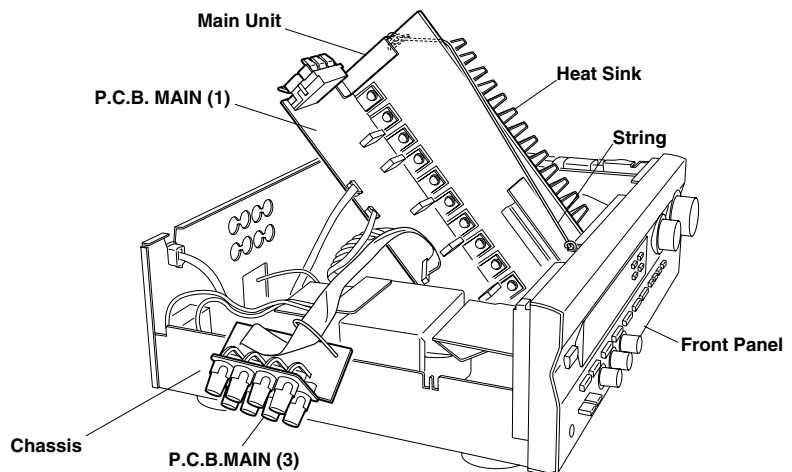

Fig.4
- Take out the P.C.B. MAIN (3) to Left side in Fig. 4.
- While pull out the Main Unit to the Front Panel side, place the Main Unit on its side as shown in Fig. 4.
- Connect to ground by shorting between G201 on P.C.B. MAIN (1) and the chassis.
- Insert the insulator seet (Cloth, Paper or equivalent) so that unshorted the between bottom side of P.C.B. MAIN (1) and the chassis.
- Using a string, fix the between screw-hole of the Heat Sink and screw-hole of the Front Panel in Fig. 4.